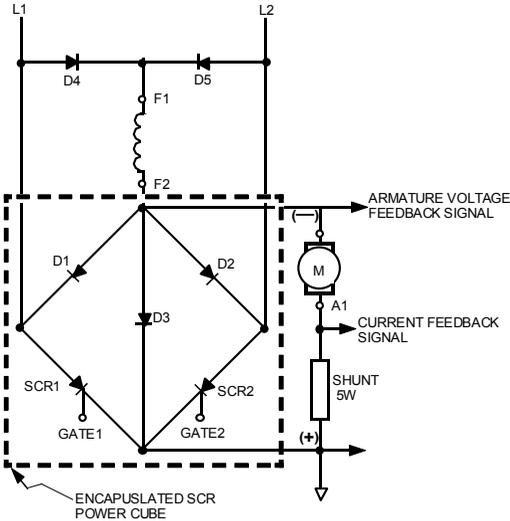

Figure 7: Power Bridge Assembly
Throughout this paragraph, refer to Figure 7.
Three functional details are shown in Figure 7.
**NOTE: COMPONENT DESIGNATIONS IN Figure 7, SUCH AS "D1" AND "D2", ARE FOR REFERENCE PURPOSES ONLY. THEY DO NOT CORRESPOND TO ACTUAL COMPONENT DESIGNATIONS ON THE CONTROL.**
Figure 7 also shows the motor shunt field supply. Diodes D1, D2, D4 and D5 form a single phase full wave uncontrolled rectifier bridge. This bridge produces a 200VDC field voltage when operated at 240VAC and 100VDC field voltage when operated at 120VAC. The motor shunt field supply rating is 1 amp.